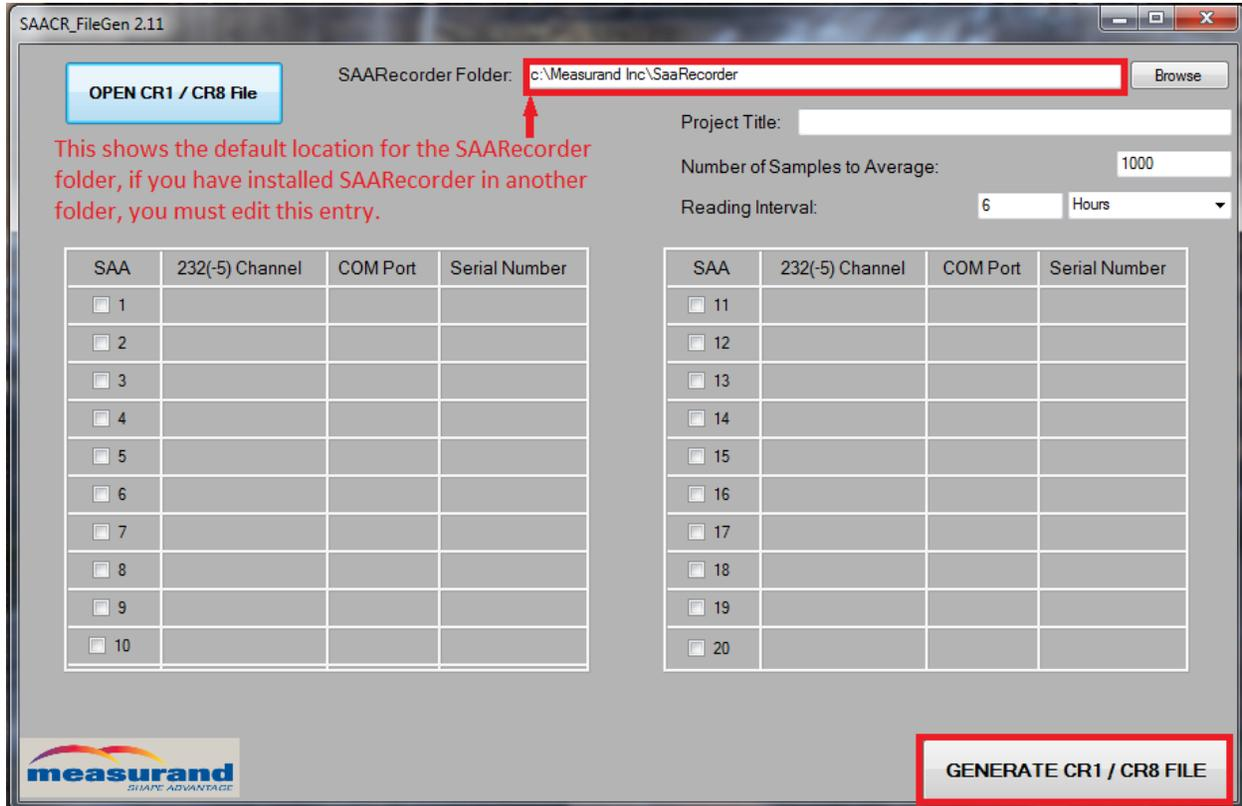

Figure 5.1: SAACR\_FileGen utility.
Program files for collecting SAA data using the CR1000 can be created using the Measurand SAACR\_FileGen utility (Figure 5.1). The following fields must be completed before generating the file:
- SAA Table: For each SAA, the following information must be included, (as seen in Figure 5.1):